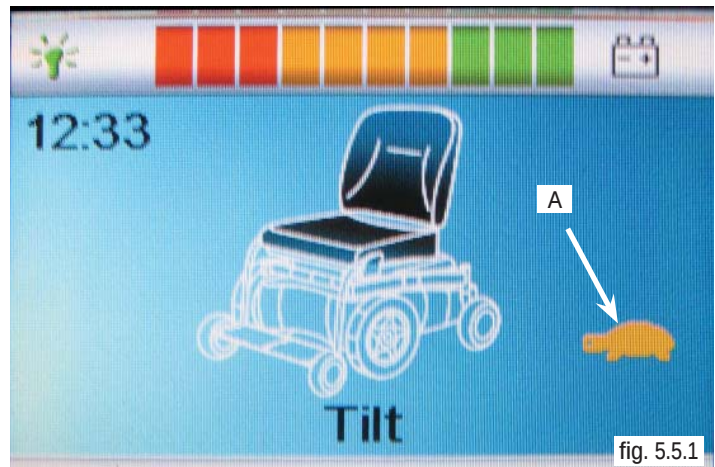

fig. 5.5.1
If the turtle (A) is displayed (fig 5.5.1), contact Sunrise Medical Technical Service for assistance.